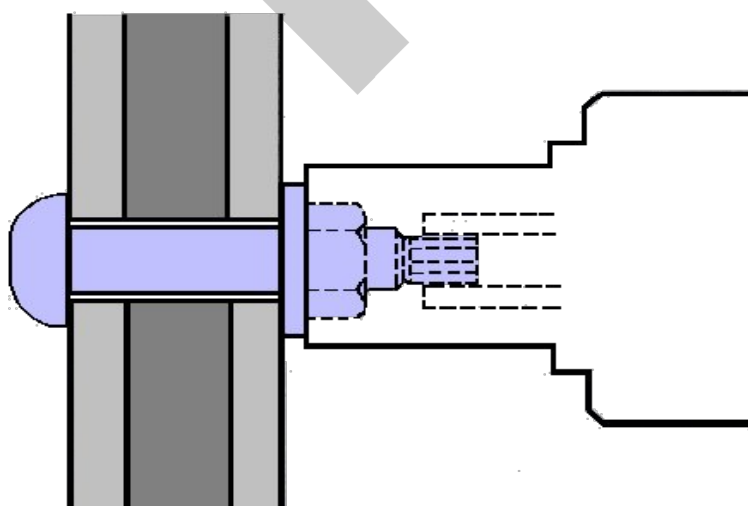

Fig 2.
2. The non-impacting electric shear wrench has two sockets which operate in opposing directions; engage the inner socket over the bolt spline and the outer socket over the nut (Fig 2). Ensure that both inner and outer sockets are fully engaged before proceeding.